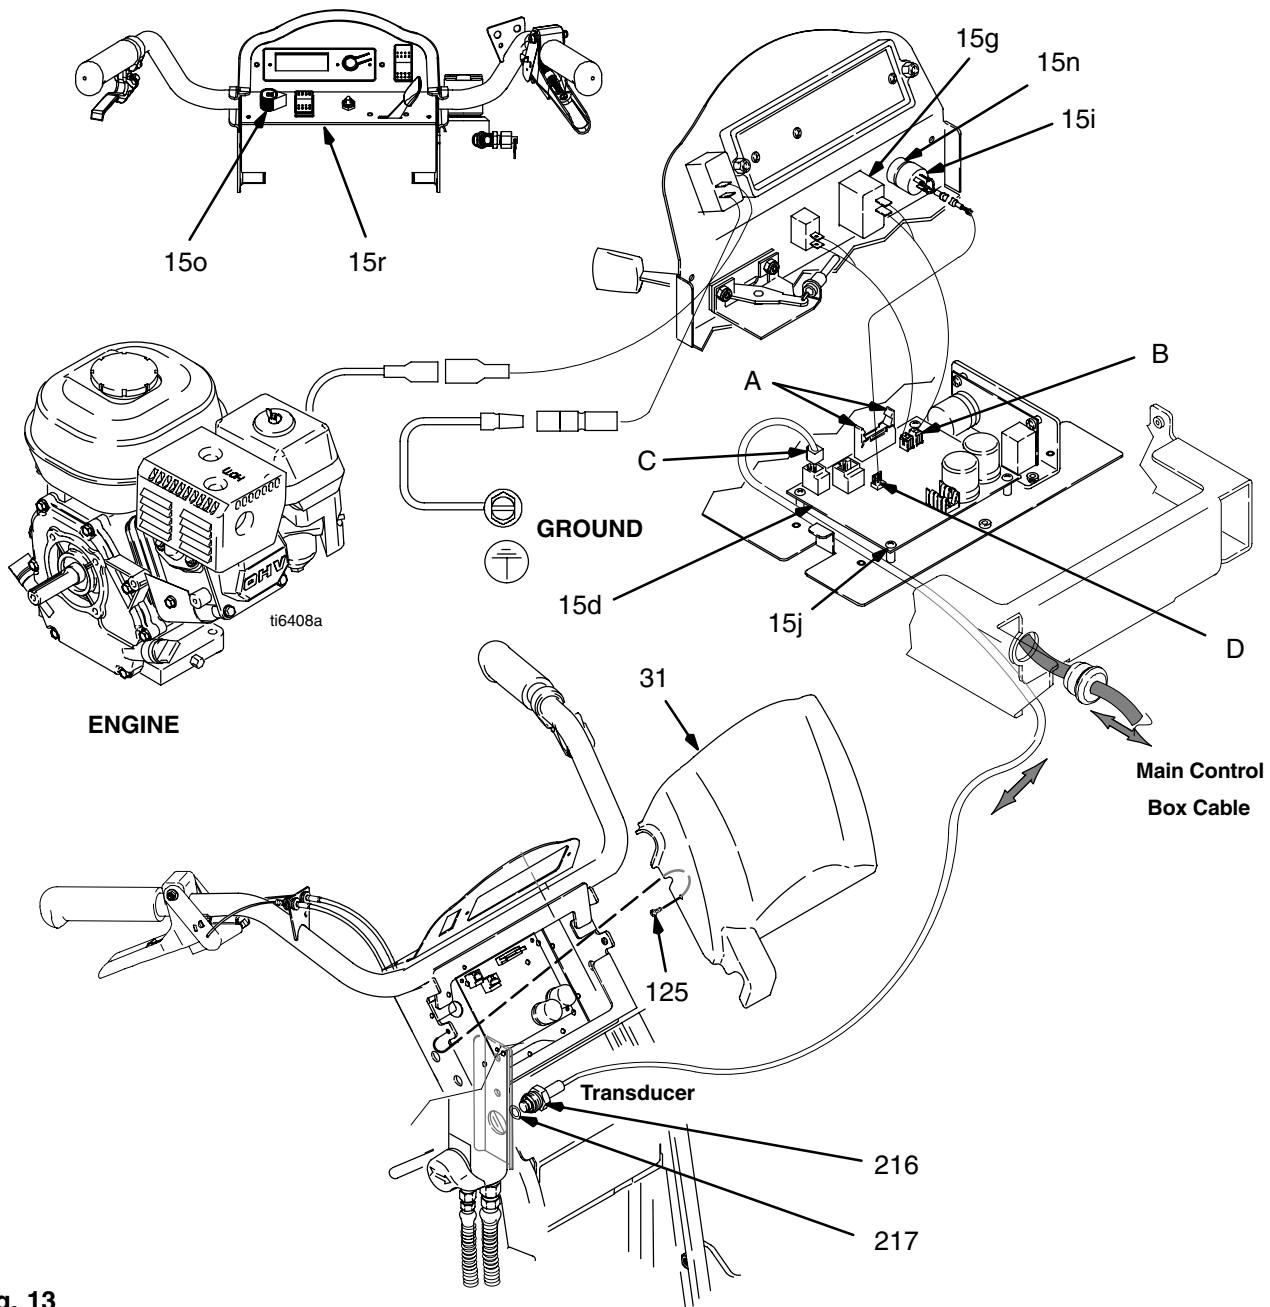

Fig. 13
2. Fig. 13. Remove two screws (125) and cover (31).
3. Pull display connector wings (A) open on PC board and pull display connector out.
4. Disconnect ON/OFF switch connector (B) from PC board.
2. Fig. 13. Remove two screws (125) and control cover (31). Pull display connector wings open on PC board and pull display connector out.
3. Figs. 13 and 21. Note on a paper lead connections to the control board. Disconnect leads from control board (15d).
4. Fig. 13. Remove four screws (15j) from control board (15d).
1. Fig. 13. Install control board (15d) with four screws (15j).
2. Figs. 13 and 21. Refer to note on lead connections to the control board. Connect leads to control board (15d).
3. Fig. 13. Push display connector into PC board close display connector wings on PC board. Install control cover (31) with two screws (125).
2. Fig. 13. Remove two screws (125) and control cover (31).
3. Disconnect transducer lead (C) from control board (15d).
4. Remove pressure control transducer (216) and o-ring (217) from filter manifold (40).
1. Fig. 13. Install o-ring (217) and pressure control transducer (216) in filter manifold (40). Torque to 35–45 ft-lb.
2. Connect transducer lead (C) to control board (15d).
3. Install control cover (31) with two screws (125).
3. Disconnect lead (D) from control board (15d).
2. Fig. 13. Install pressure adjust potentiometer (15i), shaft nut, lockwasher and potentiometer knob (15o).
3. Connect lead (D) to control board (15d).
4. Install control cover (31) with two screws (125).